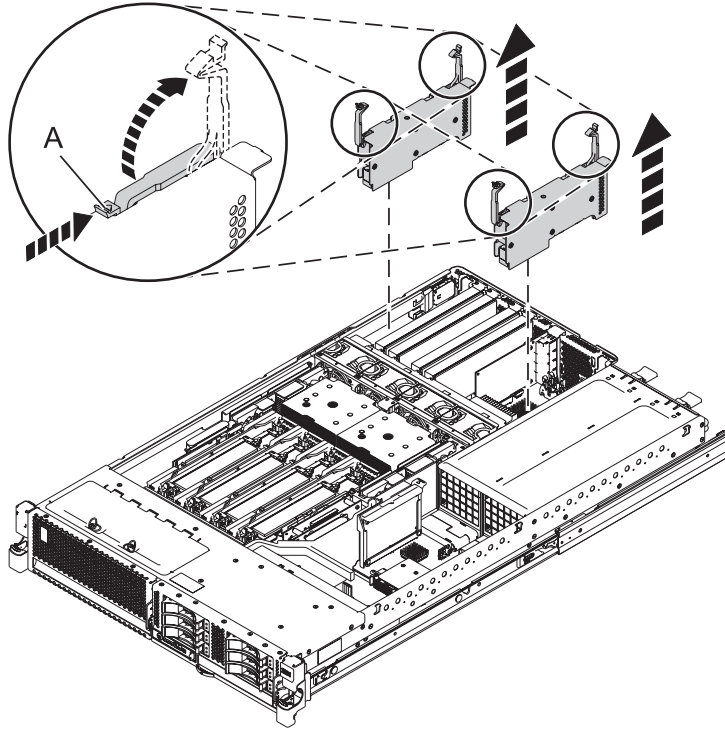

Figure 6. Adapter removal from a rack-mounted system
14. With the system in the service position, remove the existing adapter assembly as shown in Figure 6 on page 8. Unlock the latches on the adapter. Pull up the latches into the open position, and then lift the adapter out of the system.